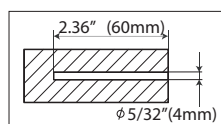

Fig. 3b
2. Place the wall mount flat against the wall with the center of the mount in the desired location, aligning the holes in the mount with the stud (Fig 3b). Use the wall plate as a template to mark the location of the two mounting holes on the wall. Make sure that the mounting holes are in the exact center of the stud.
4. Use a wrench, the two Long Bolts (A) to attach the wall mount to the wall.